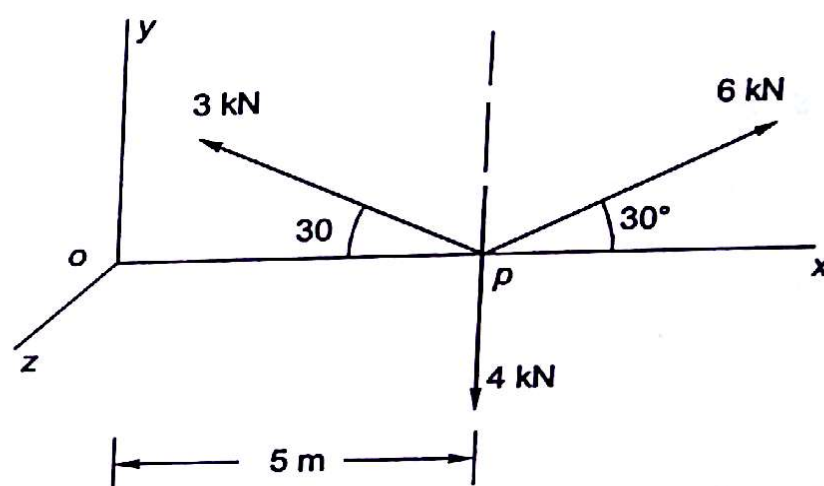

Fig. 1.30
1.5 Three concurrent forces are passing through a point P on x-axis as shown in Fig. 1.30, what is moment of these forces about the origin O?